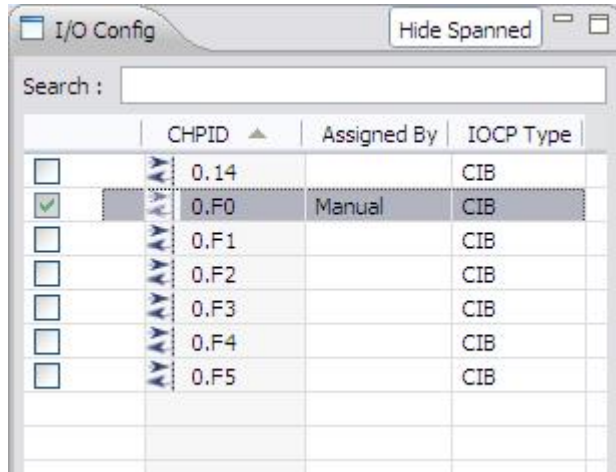

Figure 122. Results of clicking Hide Spanned
- ii) In the I/O Config pane, you can click **Hide Spanned** to hide the additional item or items. Figure 122 on page 96 shows the additional item hidden.